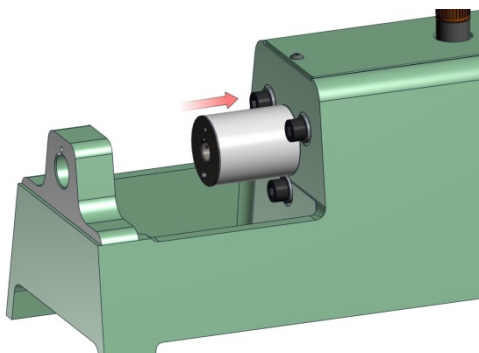

Figure 6.3.4
8. Insert the Hydraulic Piston (without tilting) until it is at the end position on the right. See Figure 6.3.4 below.